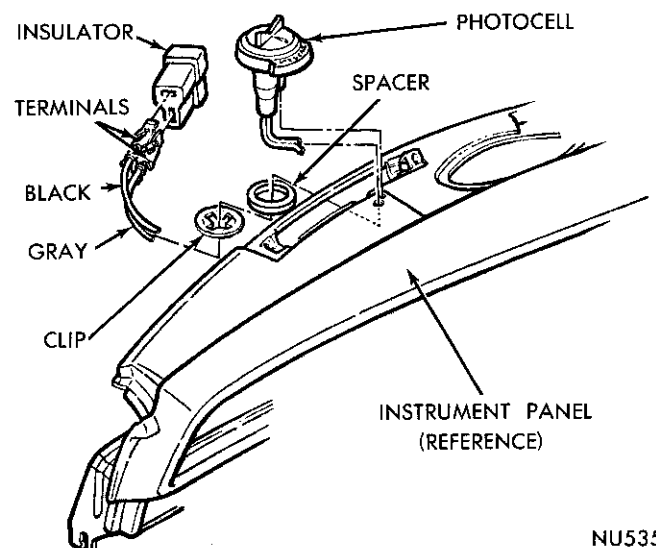

Fig. 1—Photo Cell Installation
Photocell (Fig. 1)
Should the lights fail to automatically turn off at day break, shine a bright light into the photocell. Rotate the cap to the centered position between the "Early" and "Late" position. If the lights light, the cap was rotated too far blocking off light to the cell through the window in the cap (Fig. 1). Instruct the owner in the proper use of the Safeguard Lighting System.
- (1) Disconnect battery ground cable.
- (2) Remove steering column cover and left spot cooler hose from distribution duct if air conditioning equipped.
- (3) From under panel, disconnect photocell connector (black and gray wires (Fig. 1), and remove